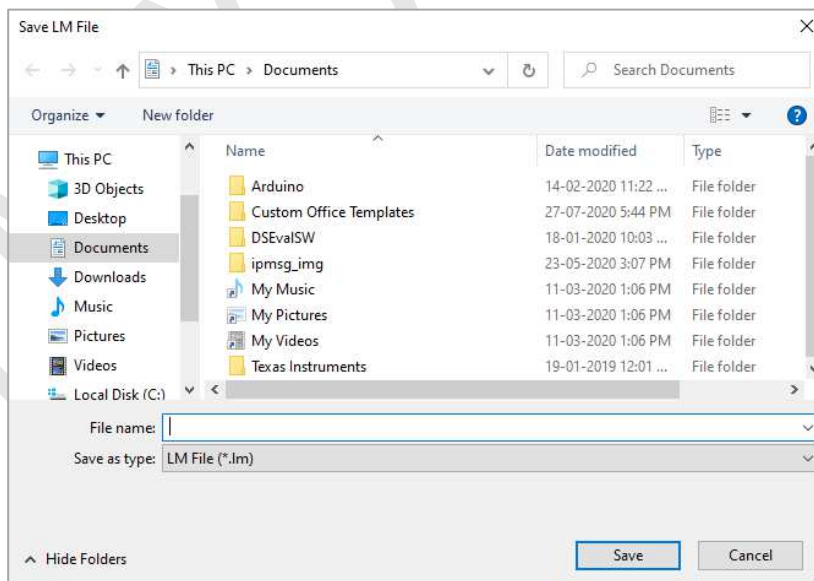

Figure 22 Selecting file location for saving data summary
- Open LMViewXS-E006 software Application to carry out analysis for process readings. The pop up window will appear as shown in figure 22. Select the appropriate file path and batch file name for saving the data summary and press button.